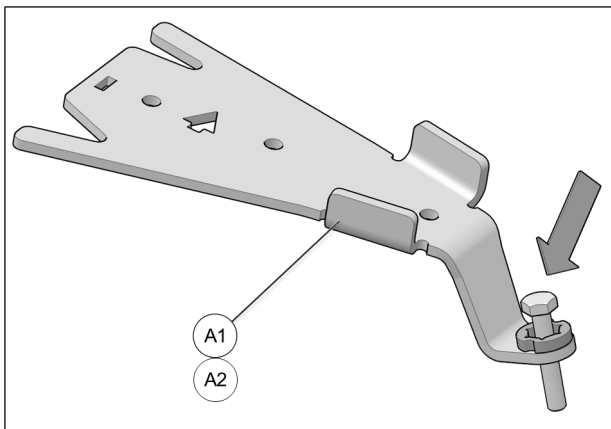

Fig. 14
4. Insert bolt in front anchor brackets (A1-A2) as shown in Fig. 14